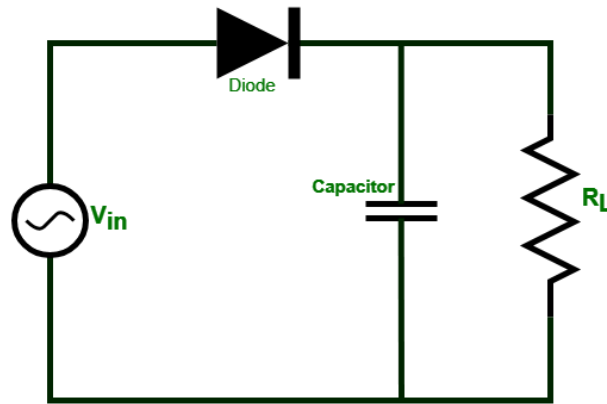

Figure 3.2
2. Connect an electrolytic capacitor $C = 10\mu\text{F}$ in parallel with the resistor R (Figure 3.2).